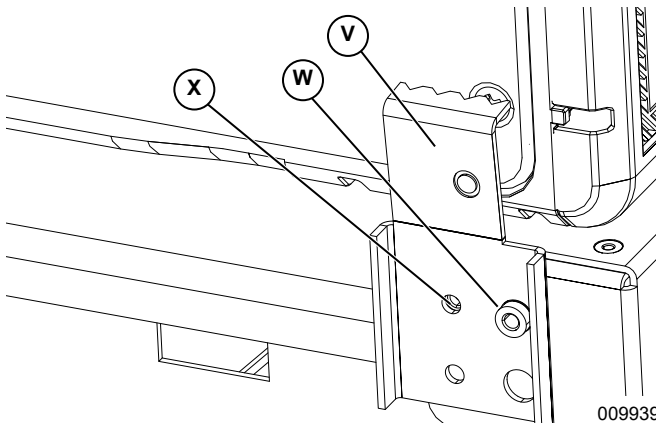

Figure 4-17. Retention Clips (3 of 3)
1. See **Figure 4-17**. Align holes in retention clip (V) with stud (W) and mounting hole (X)